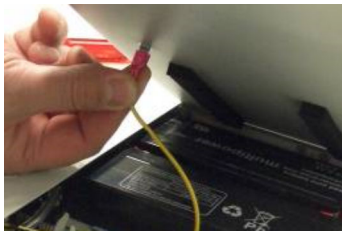

Fig. 85: Earthing plugs
- 9.** ▶ Remove the earthing plugs from the front and rear cover (Fig. 85).